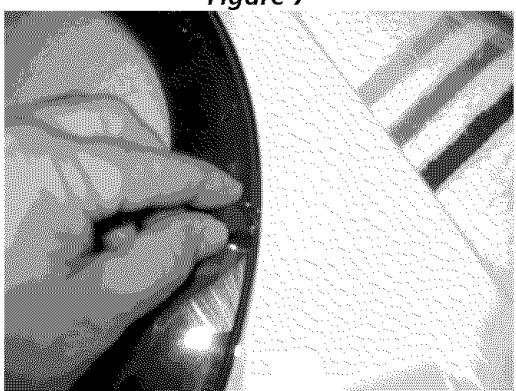

**Figure 6**
7. Flip door so lens side is facing up. Apply moderate pressure downward and rotate lens 180 degrees so that holes in lens align with transition ring plugs. (Figure 6)